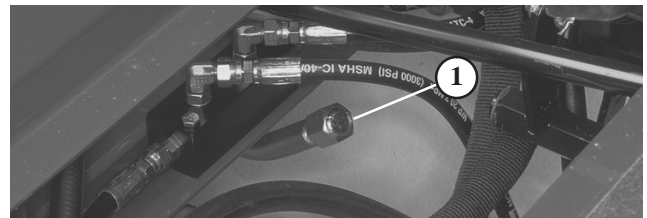

Figure 18
3. Unscrew dipstick cap from the transmission filler neck (Fig. 18) and wipe it with a clean rag. Screw dipstick into filler neck. Remove the dipstick and check level of oil. If level is not within 1/2 inch from the groove in the dipstick, add enough oil to raise level to groove. **Do not overfill** by more than 1/4 inch above groove.